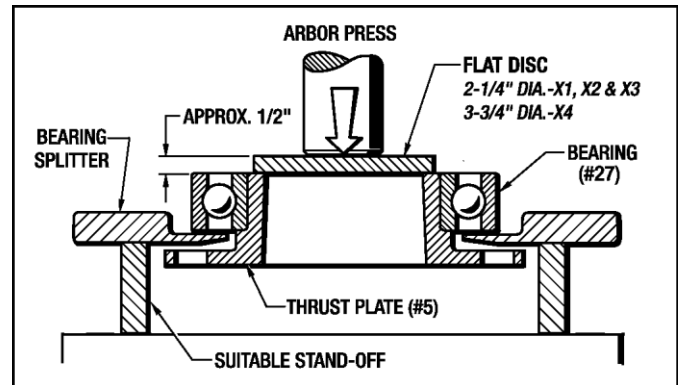

Figure 7.7 - Removing Thrust Plate (#5) From Bearing (#27)
3. The Thrust Plate (#5) can be removed from the Bearing (#27) with a Bearing Splitter and Arbor Press as shown in Figure 7.7.